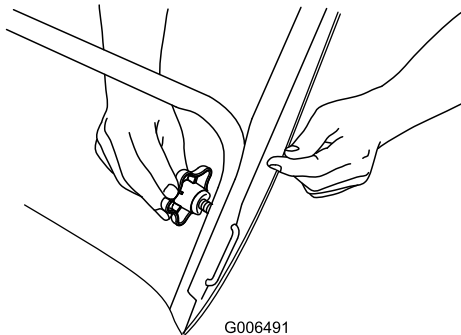

Figure 4
2. Insert the end of the "U"-shaped handle lock into the open hole in the handle and tighten the handle knobs until they are snug (Figure 4).